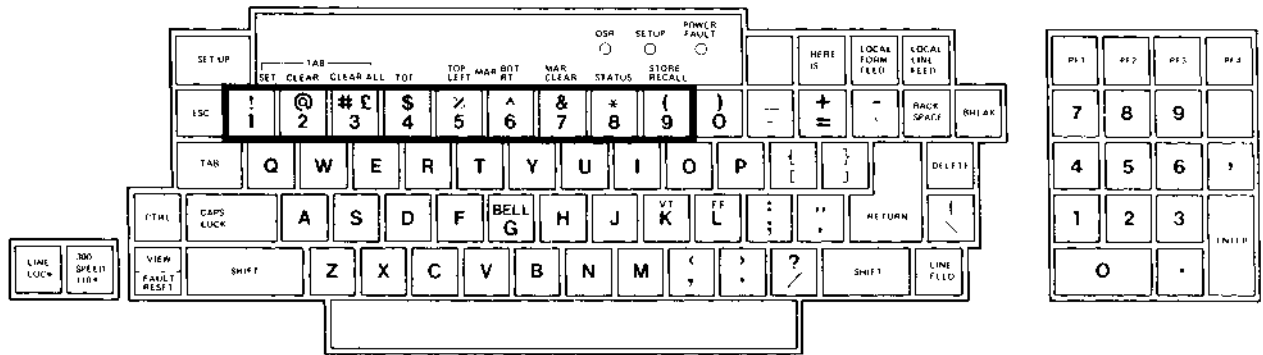

Figure 4-5 SET-UP Mode Keys
4.3.2.2 SET-UP Mode Keys – Figure 4-5 shows the SET-UP mode keys on the keyboards. Most of these keys are used to set up forms before using the terminal in a specific application. In addition, many other keys on the keyboards perform special functions in SET-UP mode. Refer to Table 4-1 for a complete list of SET-UP commands. Table 4-3 lists and describes the set-up mode keys.
Table 4-3 SET-UP Mode Keys (Figure 4-5)
Table 4-3 SET-UP Mode Keys (Figure 4-5) (Cont)